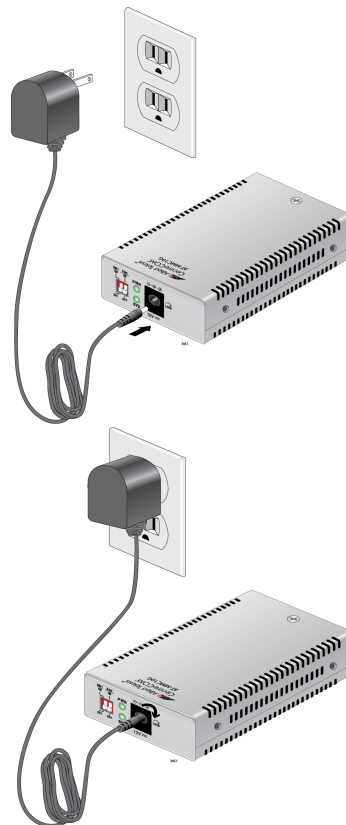

Figure 37. Connecting 12VDC Powered Unit
1. Plug the DC of the external power adapter to the power receptacle connector labeled 12VDC on the back panel of the media converter and turn the cord clockwise one-quarter turn to lock, as shown in Figure 37.